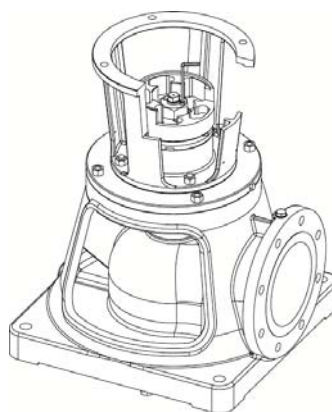

Figure 14
- Put the set screw in and screw down tightly (fig. 14).